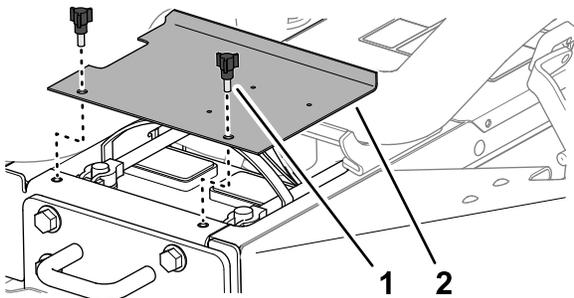

Figure 4
- Remove the 2 knobs that secure the battery cover to the machine, and remove the cover (Figure 4).